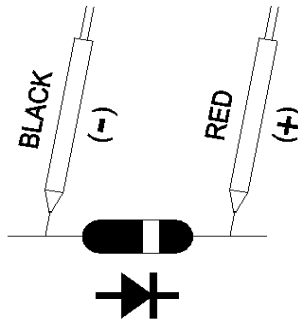

Fig.3
- b. When connected as shown in Fig. 3, a reverse check on the diode is made. If the diode under test is good, "———" will be displayed. If the diode under test is defective, "0.000" or other numbers will be displayed. Proper diode testing should include both steps a. and b. above.